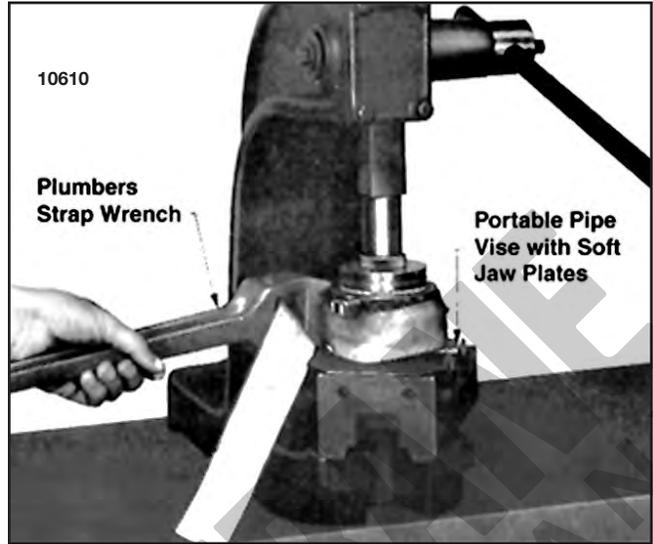

Figure 7-25. Winding Load Brake Gear Using a Strap Wrench to Set Up Load Brake Spring
- The brake spring must be pre-loaded at assembly to a torque of from 6 to 10 lb. ft. when used with yellow (color code) spring and a torque of 10 to 14 lb. ft. when used with plain (no color code) spring. (See Section IX for proper spring). This is accomplished using a plumber's strap wrench to wind (rotate) load brake gear to set up spring (fig. 7-25) while pressing brake flange into place using an arbor press. Clamp pinion end of shaft into a portable vice to keep brake from rotating in press. Use brass or copper jaw plates on vise to protect pinion gear teeth. Wind gear counterclockwise (viewing brake from flange end) with strap wrench and press down on flange until snap ring groove in shaft is exposed allowing snap ring to be installed. Use extreme care not to over wind spring as yield will result and final spring torque will be reduced. Do not wind gear beyond point necessary to install snap ring in groove.